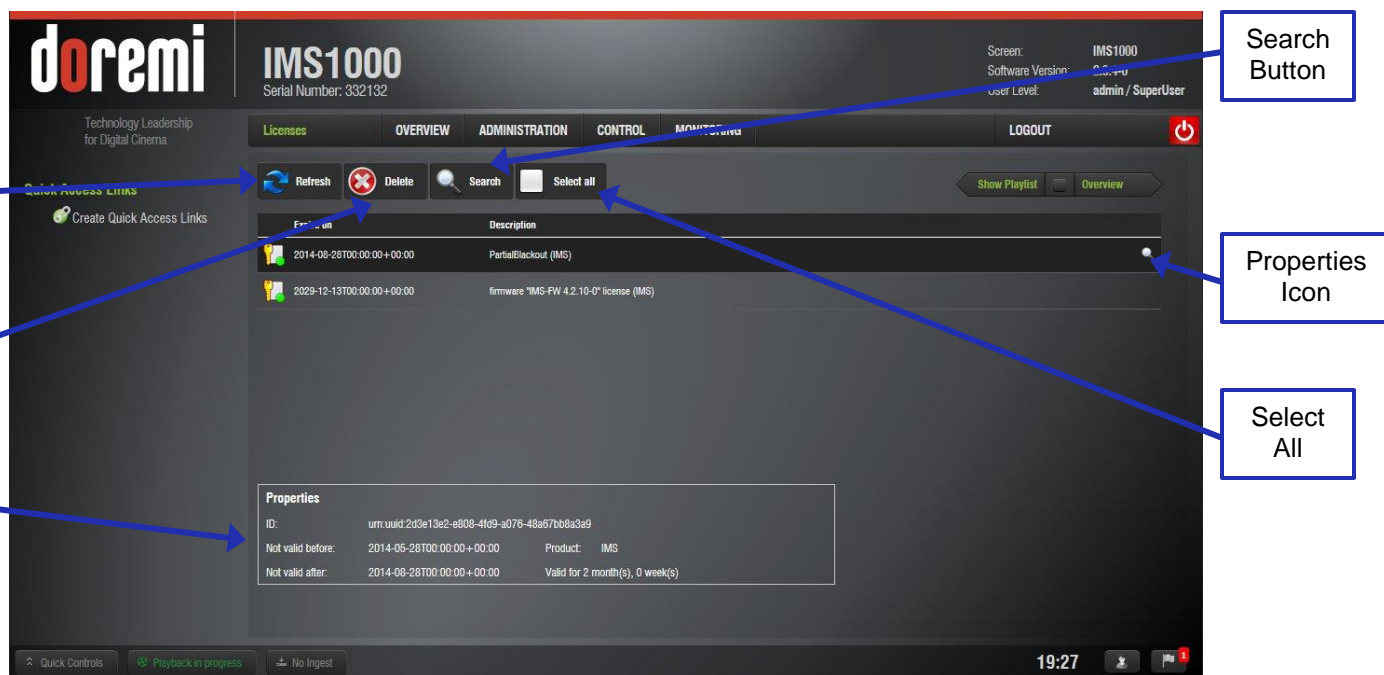

Figure 305: Licenses Tab
- The Licenses page contains the list of all the licenses available on the unit including the expiration date and short description of the usage of the license (Figure 305). On this page, the user is allowed to delete licenses.
- To see an updated view of the tab will all available licenses, click on the Refresh button. To search for a specific license, click on the Search button. To select or unselect all of the licenses, click the Select All button (Figure 305).
Clicking anywhere on the line of a highlighted License, or on the Properties icon that appears on the right, will display information about that license on the bottom portion of the tab (Figure 305).
- Select the license from the list and then click on the Delete button (Figure 305).